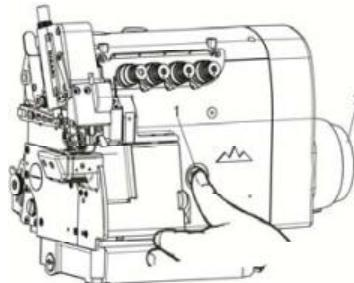

Fig. 22
1. With push button 1 depressed, turn handwheel 2 so that the push button 1 goes further into the depth (Fig.22).
2. With the push button in the place stated in 1.Turning handwheel 2 counterclockwise produces coarse stitches. Turning handwheel 2 clockwise produces fine stitches (Fig.22).